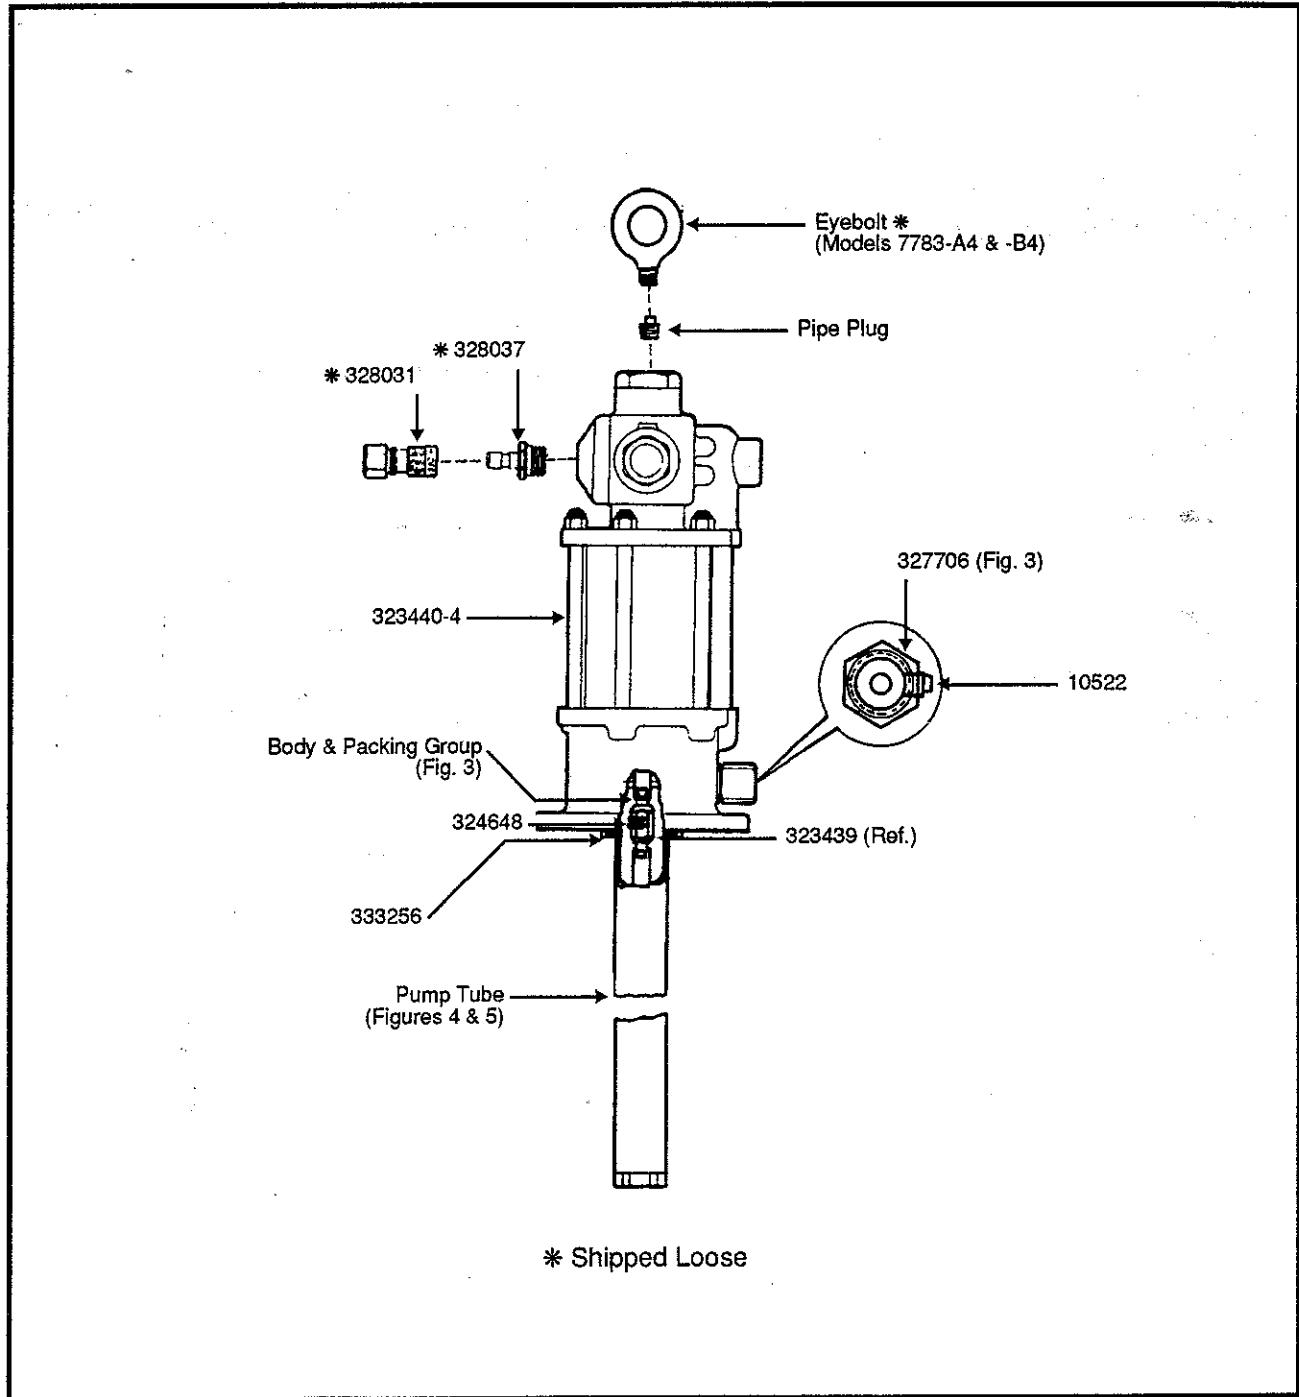

Figure 2: Components of Series 7783 Low-Pressure Fluid-Lubricant Pumps
1. Thread male adapter 328037 into 3/4" air inlet of air motor (Figure 2).
3. If unit is equipped with eyebolt, remove pipe plug from top of air motor and replace with eyebolt (Figure 2).
a. Slide cover over pump tube and align four (4) holes of cover with holes on underside of air motor assembly.
b. Secure cover using four (4) stop nuts and four (4) screws (supplied).
c. Install three (3) thumb screws into openings on side of cover.
(Figure 2)
1. Unscrew and remove adapter 327706 from body of air motor assembly 323440-4 (Figure 2).